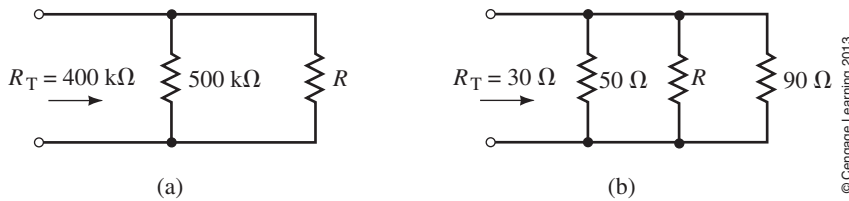

FIGURE 6–56
13. For the networks of Figure 6–56, determine the value of the unknown resistance(s) to result in the total resistances given.
14. Determine the value of each unknown resistor in the network of Figure 6–57, so that the total resistance is 100 kΩ.
15. Refer to the network of Figure 6–58: